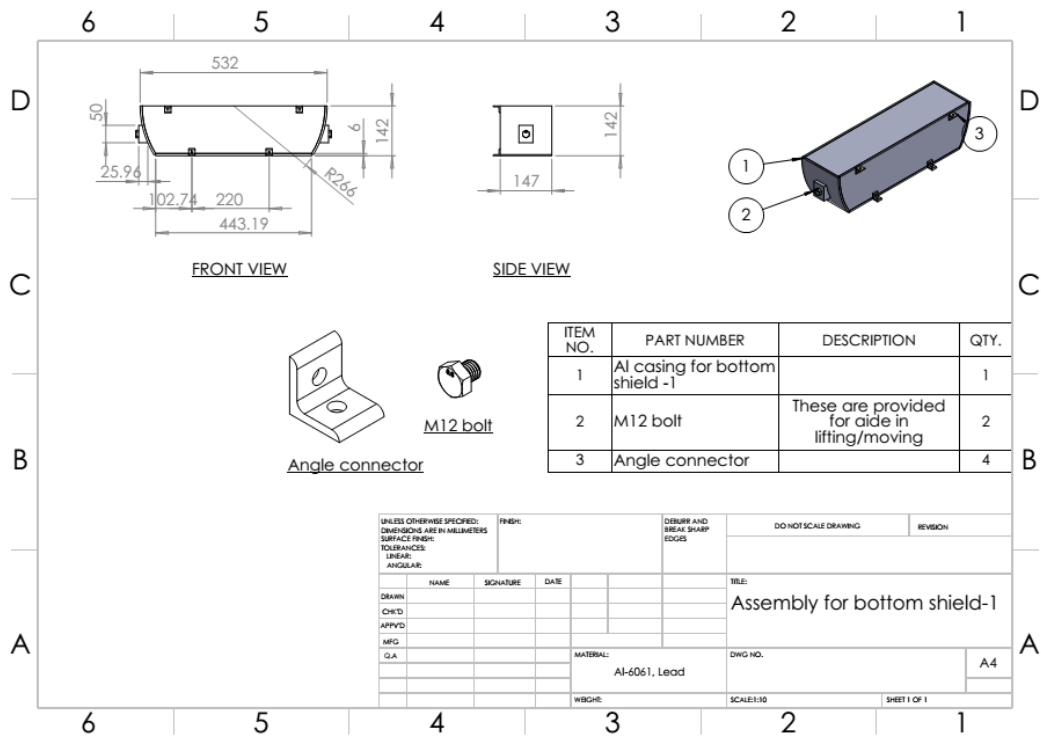
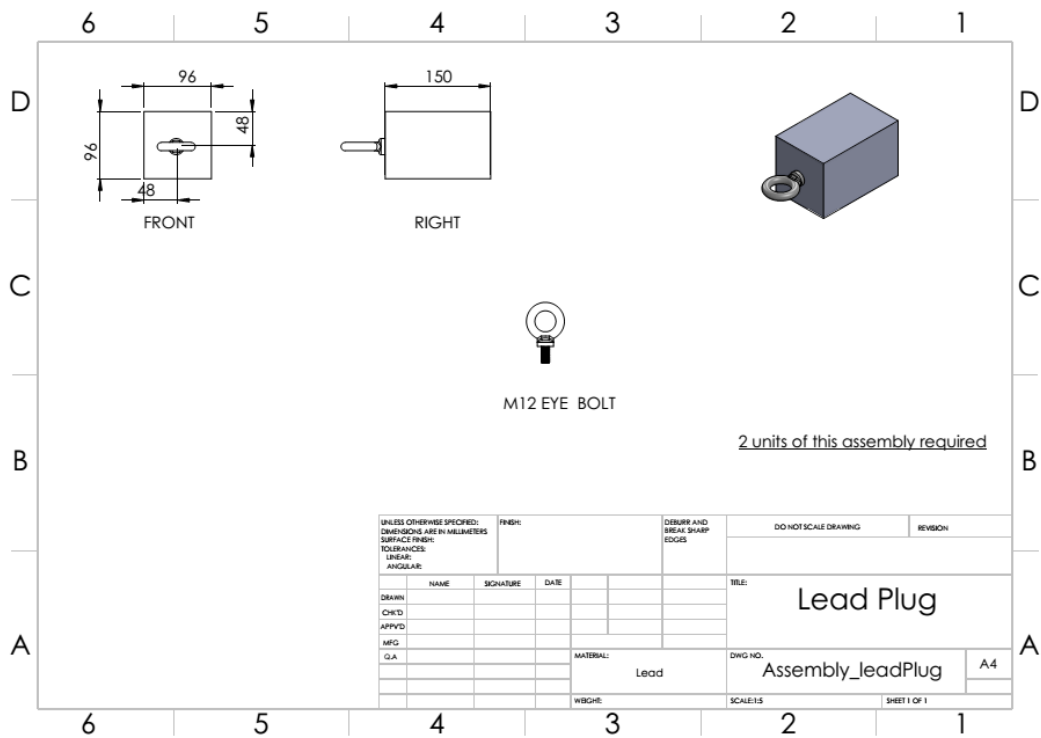

Figure 6. Design of Bottom Aluminum casing- 1. The casing is made of Al-6061 alloy and the inside will be filled with lead.
Figure 9. Design of Lead plug. This part will be made of solid Lead with an eye bolt for handling (2 units).
1. **Lead in Aluminum casing:** This consists of 5 parts. These parts are divided into two groups- top and bottom. The top group consists of 3 parts labeled- Top Aluminum casing-1 and Top aluminum casing-2 and Lead insert. The corresponding figures are- Figure 3 ,4 and 5. The bottom group consists of 3 parts labeled- Bottom Aluminum Casing 1, 2 and 3 (figure 6, 7 and 8). Each part consists of outer casing made of Aluminum sheet of thickness 6 mm. Shielding will be made by filling up the casing with molten lead of appropriate dimensions. The casings should be designed in such a way that there is no direct line of sight to the radioactive source. This is to prevent gamma ray streaming. There are two additional lead plugs (figure 9). These plugs (2 units) will be made of pure lead.